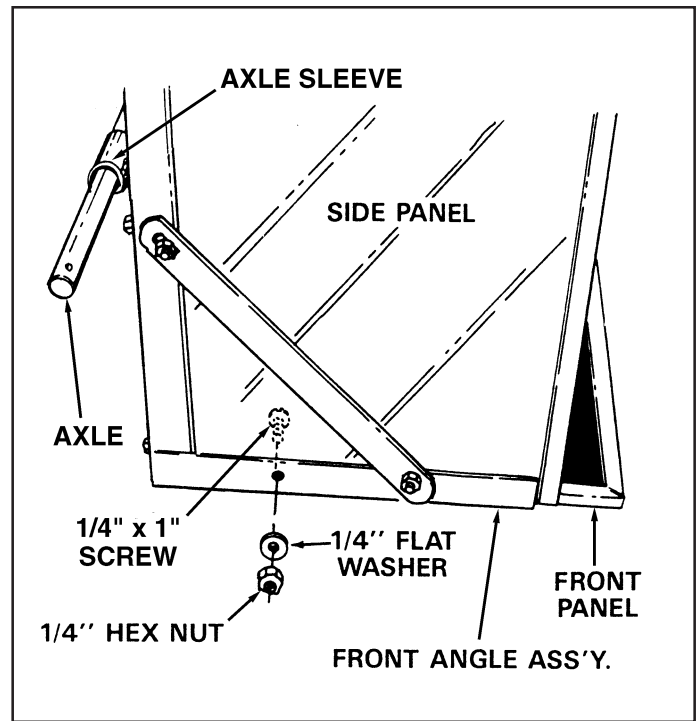
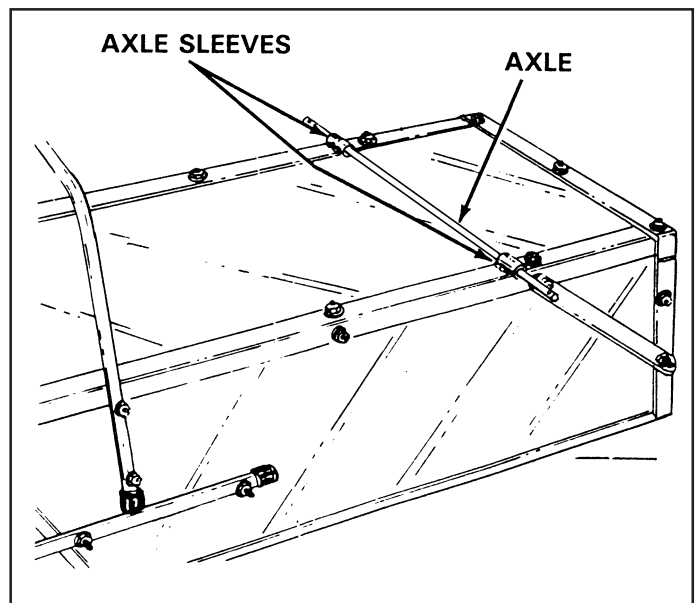

FIGURE 7
FIGURE 11
12. Assemble one 1/4" x 1" screw through bottom hole in side panel and front angle assembly. Secure with a flat washer and hex nut, **making only finger tight at this time.** See figure 7.
14. Place the axle through axle sleeves as shown in figure 7. Refer also to figure 11 on page 5. **Tighten all loose nuts and screws securely at this time.**
19. Lay the cart upside down so that the axle is on top. See figure 11.